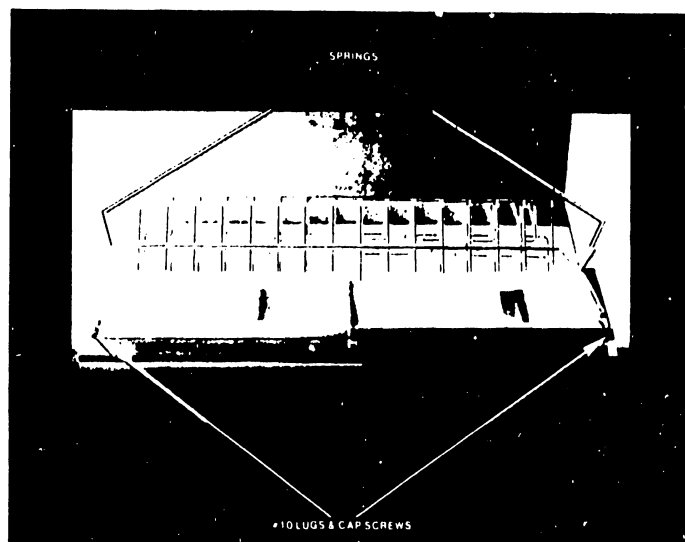

FIGURE 17
- c. Remove the two-5x11mm Metric hex-cap screws from the the printer cover. Refer to figure 17. Install two-#10 lugs, and replace the cap screws. Connect two large springs between the #10 lugs and the paper exit chute.